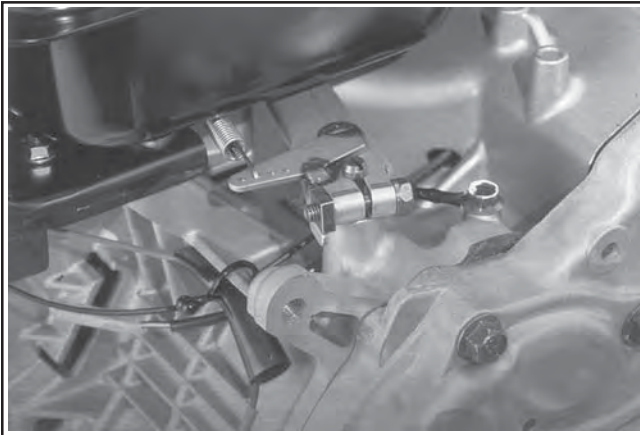

Figure 9-24. CS8.5 (spec. 92xxxx), CS10, and CS12 Ground Lead Location.
1. Disconnect the wiring harness bullet connectors for the oil sentry and ignition module. Remove the mounting screw securing the ground lead. See Figures 9-24 and 9-25. Disconnect the rectifier-regulator lead connections if used.